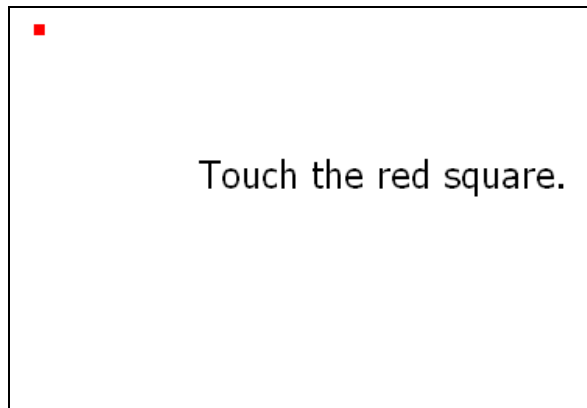

Figure 5-30: Calibration Screen
Step 9: The calibration screen in is shown. See **Figure 5-30**.